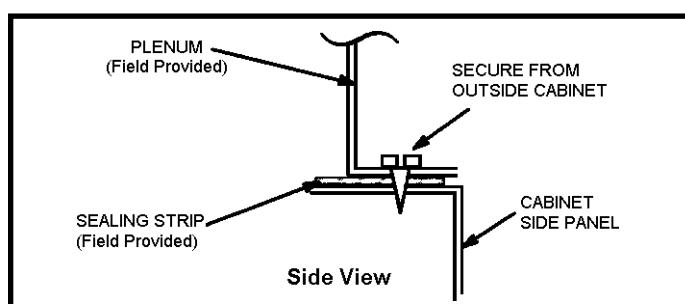

Figure 14
1. Bottom edge of plenum should be flanged with a hemmed edge (See Figure 14 or 15).